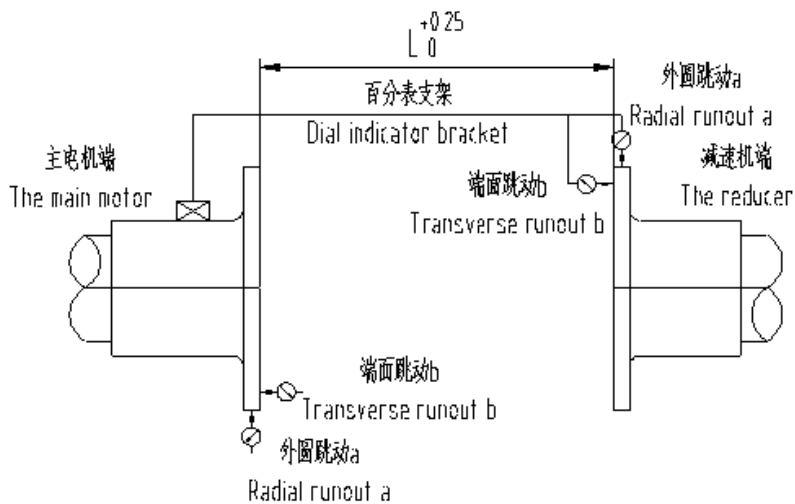

图 7 Fig.7
将装好半联轴节的电机就位前，应按减速机外形及安装示意图中联轴器的轴向总长尺寸（轴向总长尺寸由用户确定）留足空档 $L_0^{+0.25}$ （如图 7），以便膜片联轴器的顺利安装。
Before operating the motor with half coupling ready, a space $L_0^{+0.25}$ of should be left for overall axial length (decided by the customer) for the coupling for the installation of diaphragm coupling (Fig.7). Please see the unit's outline & installation drawing.
- (3) 主电机轴线和减速机轴线的对中找正（如图 7），两端半联轴节径向和端面都须按表 1 精度进行找正。找正不良将引起振动,发热,噪声，影响轴承的寿命和齿轮的正常啮合，严重时损坏减速机。
For the axis alignment of main motor and unit (Fig.7), the radial and end of double coupling must alignment accurate as table 1. Poor alignment will result in vibration, heating and noise, which has an effect on the bearing life and correct tooth contact and even damage the unit.